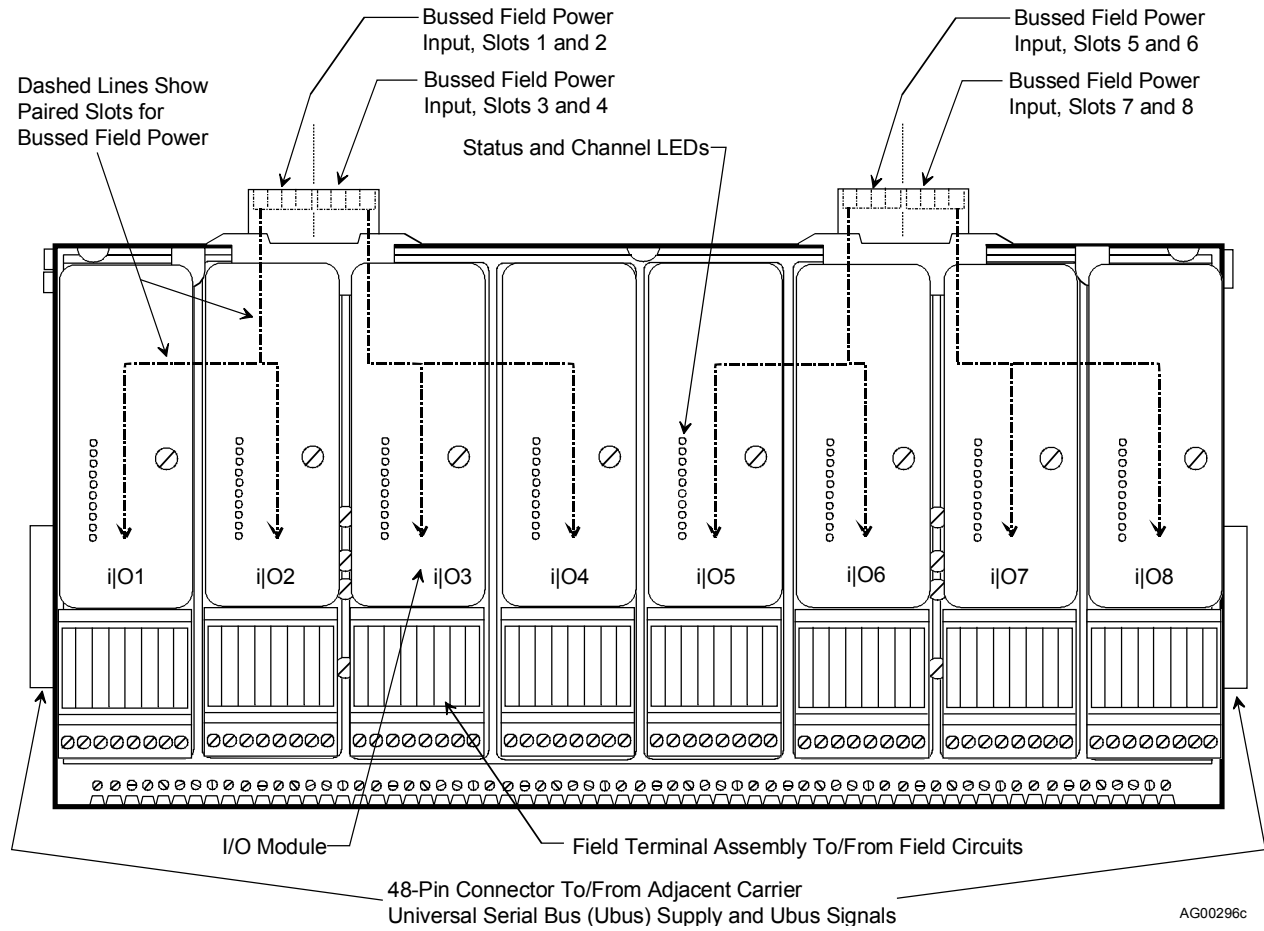

FIGURE 1 Bussted Field Power to an 8-Module Carrier
- The module carrier's paired slots for bussed field power are listed here and shown in Figure 1.